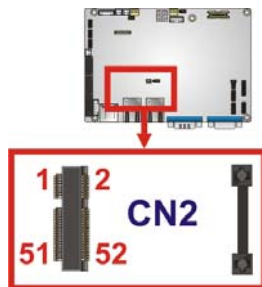

Figure 3-10: PCIe Mini Card Slot Location
- CN Location:** See **Figure 3-10**